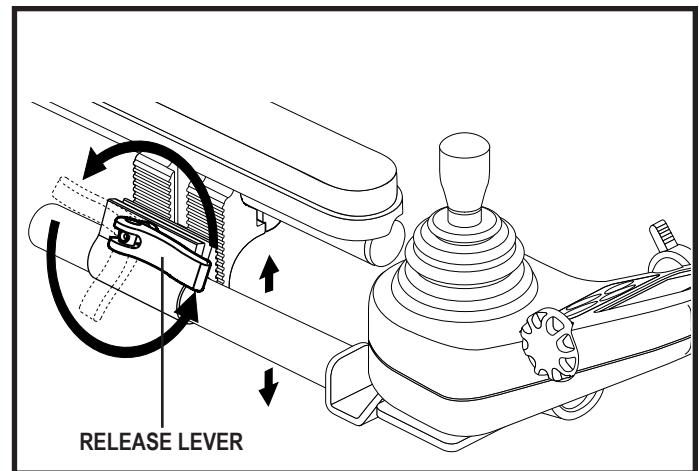

Figure 32. Controller Position – Height
3. Flip and then rotate the release lever to loosen the clamp. **See figure 32.**